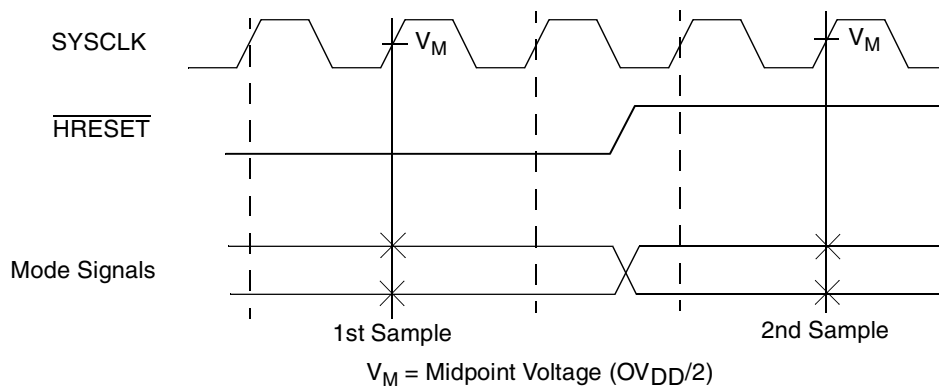

Figure 5. Mode Input Sample Timing Diagram
Table 9 provides the processor bus AC timing specifications for the MPC7447A as defined in Figure 4 and Figure 5.
8. $\text{BMODE}[0:1]$ and BVSEL are mode select inputs and are sampled before and after $\overline{\text{HRESET}}$ negation. These parameters represent the input setup and hold times for each sample. These values are guaranteed by design and not tested. These inputs must remain stable after the second sample. See Figure 5 for sample timing.
Figure 5 provides the mode select input timing diagram for the MPC7447A. The mode select inputs are sampled twice, once before and once after $\overline{\text{HRESET}}$ negation.